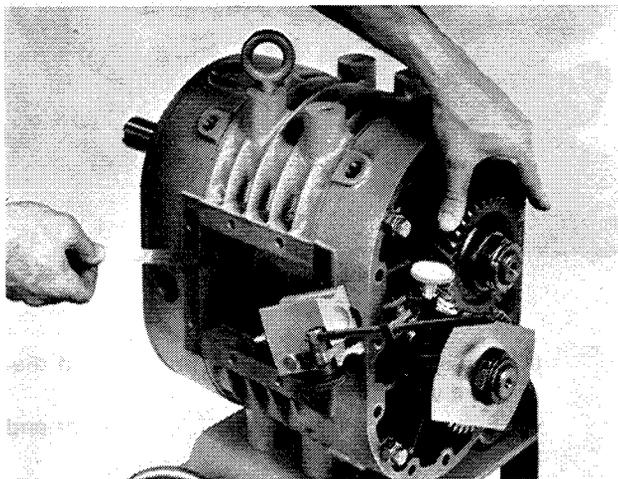

FIGURE 9
- g. If the timing gears appear to be undamaged, it is advisable to check the gear backlash before removing gears to determine whether they can be reused (see Fig. 9).
(1) Mount magnetic base dial indicator on gear end plate with arm extending toward drive gear.
(2) Lock idler rotor stationary by wedging a feeler gage between idler rotor and end plate.
(3) Place the tip of the indicator arm at approximately the center of the contact surface on a tooth of the drive gear.
(4) Rock the drive gear by hand and read the total movement to the nearest .0005 in. [.012 mm].
(5) Rotate the idler rotor 90° and repeat measurement three times.
(6) Permissible gear backlash is .0025 to .0055 in. [.064 to .141 mm].